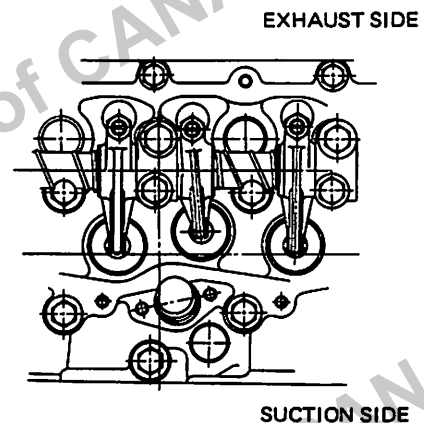

Fig. 3-2-6 Arrangement of head bolts
- (1) The highly rigid, 6-cylinder, one-piece, special cast iron cylinder head has a cross-flow system in which the intake and exhaust valves are alternated in a slightly ZIG ZAG pattern.
- (2) The intake port is a special shape that produces optimum swirl in the cylinder providing excellent combustion qualities. To extend the lifetime of the cylinder head, inserts are used for both of the intake and exhaust valve seats, and water jet nozzles inside the water jacket force-cool the cylinder head wall surrounding the valves. See Fig. 3-2-6.